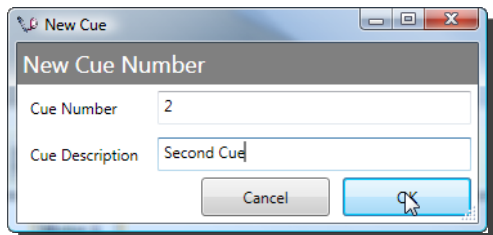

Figure 124
2. A dialog appears prompting you for a **Cue Number** and **Cue Description** (Figure 124).